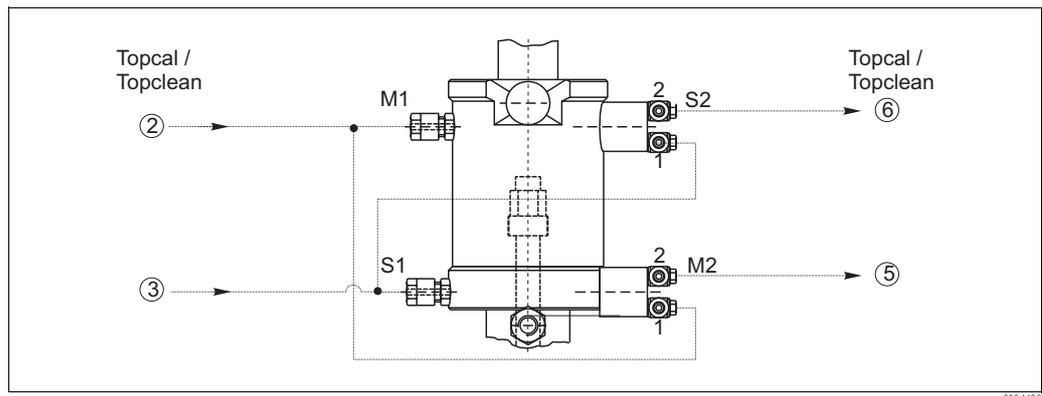

Fig. 11: Pneumatic connections and pneumatic limit position switches (1=inlet, 2=outlet)
1. Connect the compressed air supply line for "Assembly measuring" (Topcal/Topclean: hose no. ②) to the upper G 1/8 pneumatics connection (Fig. 11).
2. Also, connect the compressed air supply line no. ② to the inlet (1) of the lower limit position switch (M2, via T-piece). This limit position switch supplies the position feedback signal "Assembly measuring".
3. When the "Measuring" position is reached, the air applied to the inlet M2 (1) is switched through and can be tapped at the outlet M2 (2) (Topcal/ Topclean: connect hose ⑤ to the limit position switch outlet).
4. Connect the compressed air supply line for "Assembly service" (Topcal/Topclean: hose no. ③) to the lower G 1/8 pneumatics connection.
5. Also, connect the compressed air supply line no. ③ to the inlet (1) of the upper limit position switch (S2, via T-piece). This limit position switch supplies the position feedback signal "Assembly service".
6. When the position "Service" is reached, the air applied to the inlet S2 (1) is switched through and can be tapped at the outlet S2 (2) (Topcal/ Topclean: hose no. ⑥).